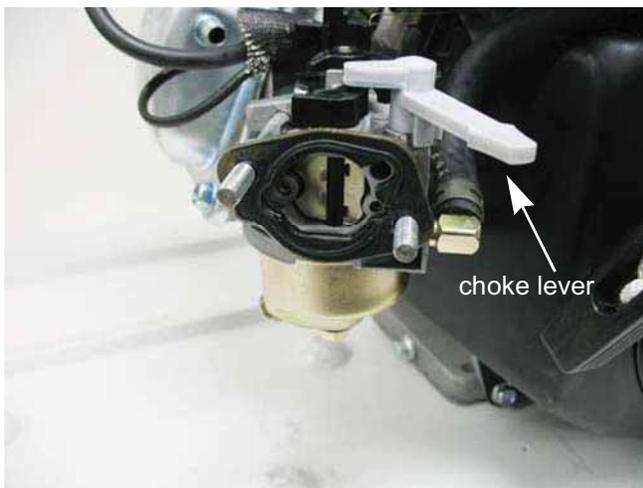

Figure 4.13
**NOTE:** Engines with a choke lever do not have any choke linkages. The choke lever is mounted on the carburetor and directly connected the choke plate. See Figure 4.13.